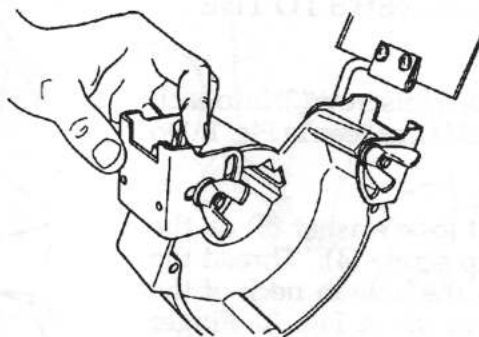

Fig. 11
11. Repeat Steps 9 and 10 for the other side of the guard. Fig. 11 shows both tool rests already assembled.